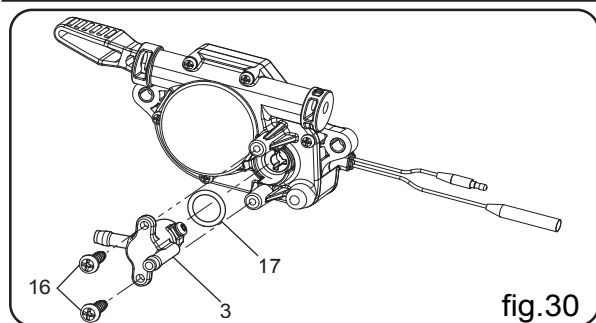

fig.30
- B. Remove the fuel cock (3) by unscrewing 2 pcs tapping screw (16). (fig.30)